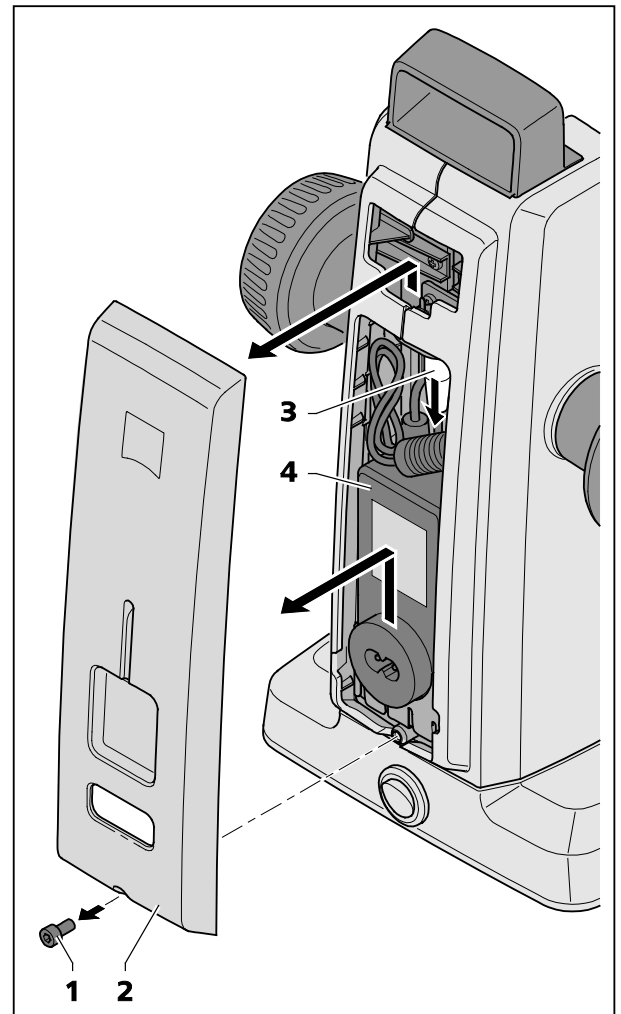

Fig. 27 Changing the power unit
- Use an Allen key to release the screw (Fig. 27/1) on the underside of the housing cover.
- Pull off housing cover (Fig. 27/2) slightly at the bottom, then press it upwards.
- Release the plug (Fig. 27/3) and remove the faulty desktop power unit (Fig. 27/4).